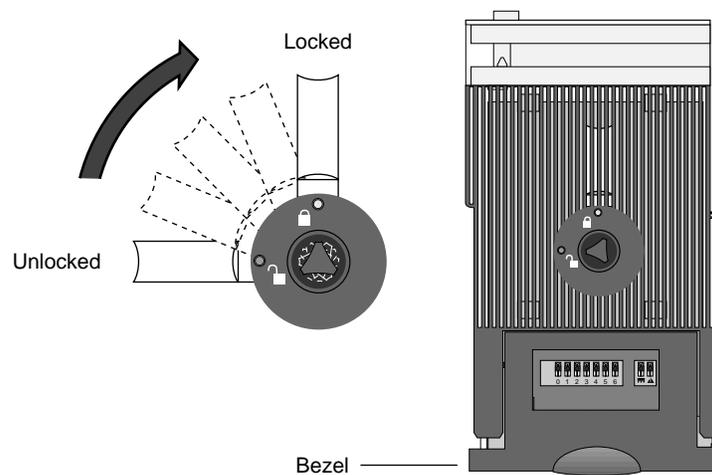

Figure 41. Locking the HDDA drive drawer
7. Insert the drive drawer key and lock the drawer by turning the key clockwise, as shown in Figure 41.